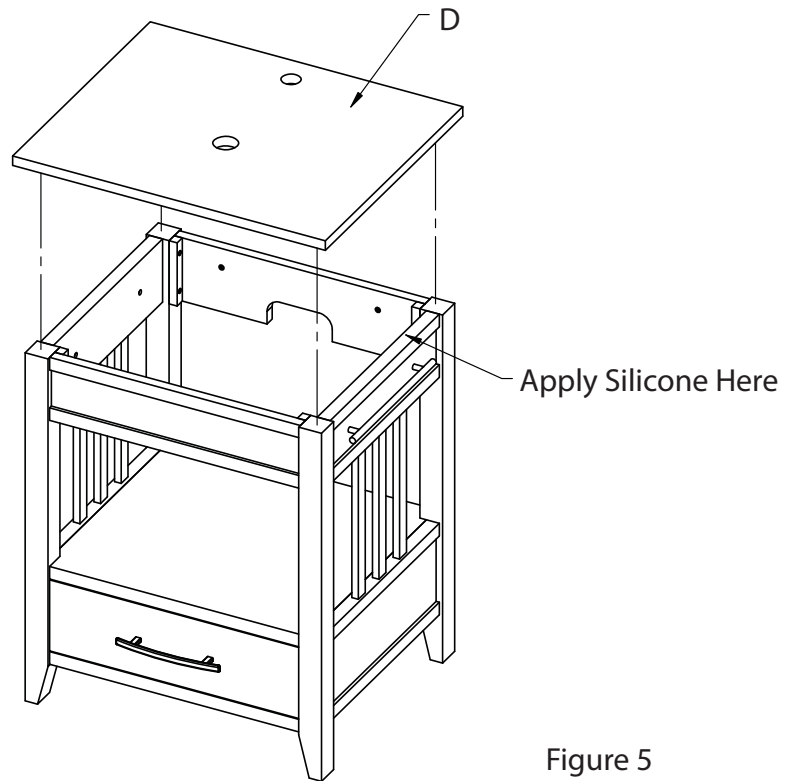

Figure 5
- o Apply silicone to top of vanity and place the Granite Top (D) carefully in position.
- o Align Granite Top (D) to the vanity and wipe off excess silicone if needed.
- o Refer to Figure 5.